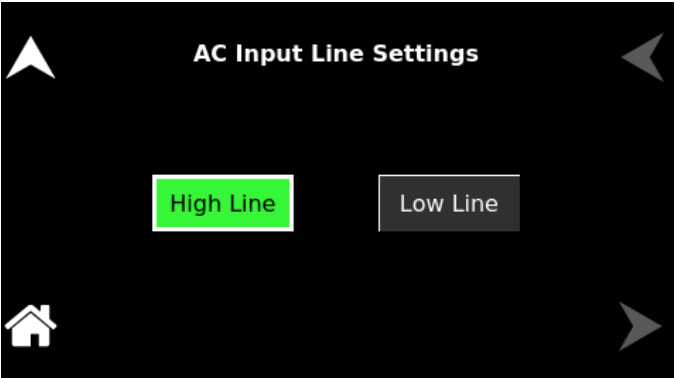

Figure 9-152. AC Input Line Settings
- User can select either the High Line or Low Line option based on the required input voltage range. Refer to Figure 9-152.